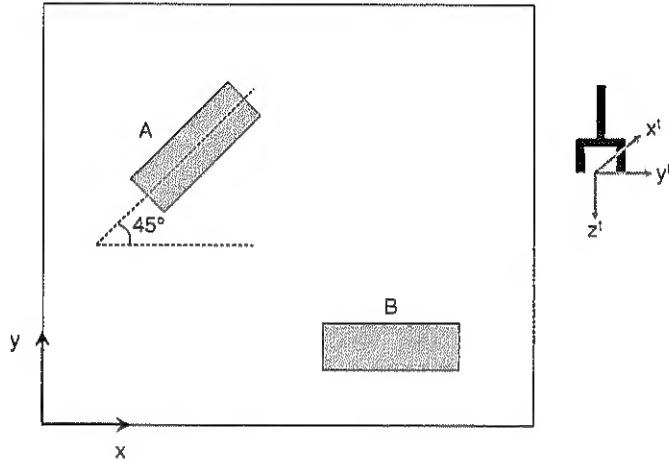

Fig. Q5
a) A robotic workstation, with parts A and B, is as shown in Fig. Q5. Given that the centroid of part A has coordinates $[2 \ 12 \ 5]^T$ and the centroid of part B has coordinates $[7 \ 3 \ 5]^T$.